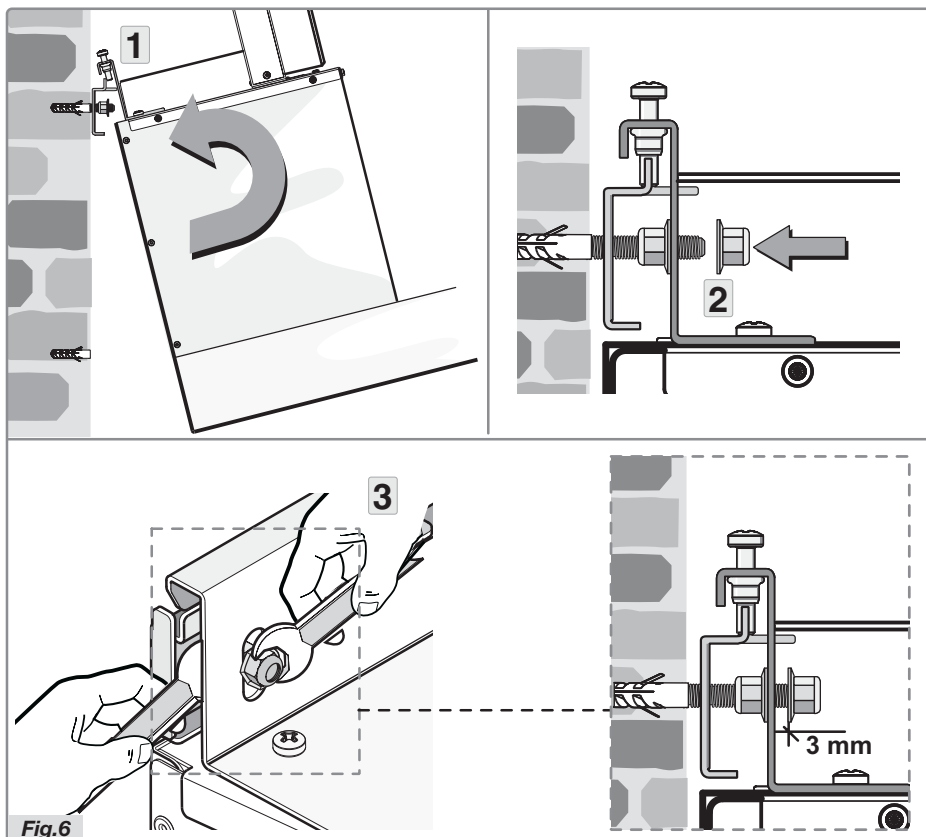

Fig.6
- Tilt the hood slightly and hook it securely to the bracket, as illustrated (Fig.6 step 1).
- Position the cooker hood and secure it to the bracket by applying the nut to the screw (Fig.6 step 2).
- Hold an appropriate spanner in one hand and use a second spanner in the other hand to counter the nut (Fig.6 step 3). The distance between the nut and the bracket should be at least 3 mm.